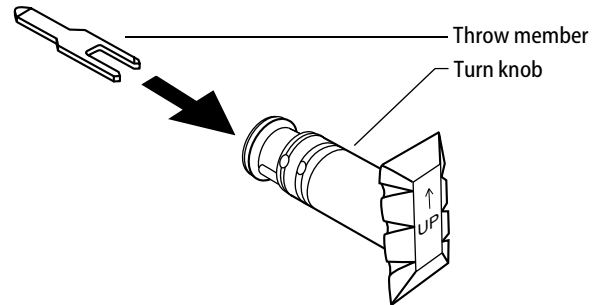

Figure 3 Inserting the throw member into the plastic turn knob.
- 1 Insert the throw member into the plastic turn knob. See Figure 3.